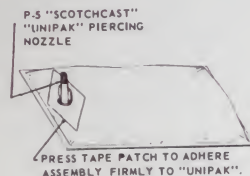

FIG. 1
- (2) Remove liner from a tape patch (packed with "SCOTCHCAST" Brand P-5 Nozzle.)
- (3) Place hole in tape patch over P-5 Nozzle and center the assembly near the narrow edge of the mixed "UNIPAK" container. See Figure 1.